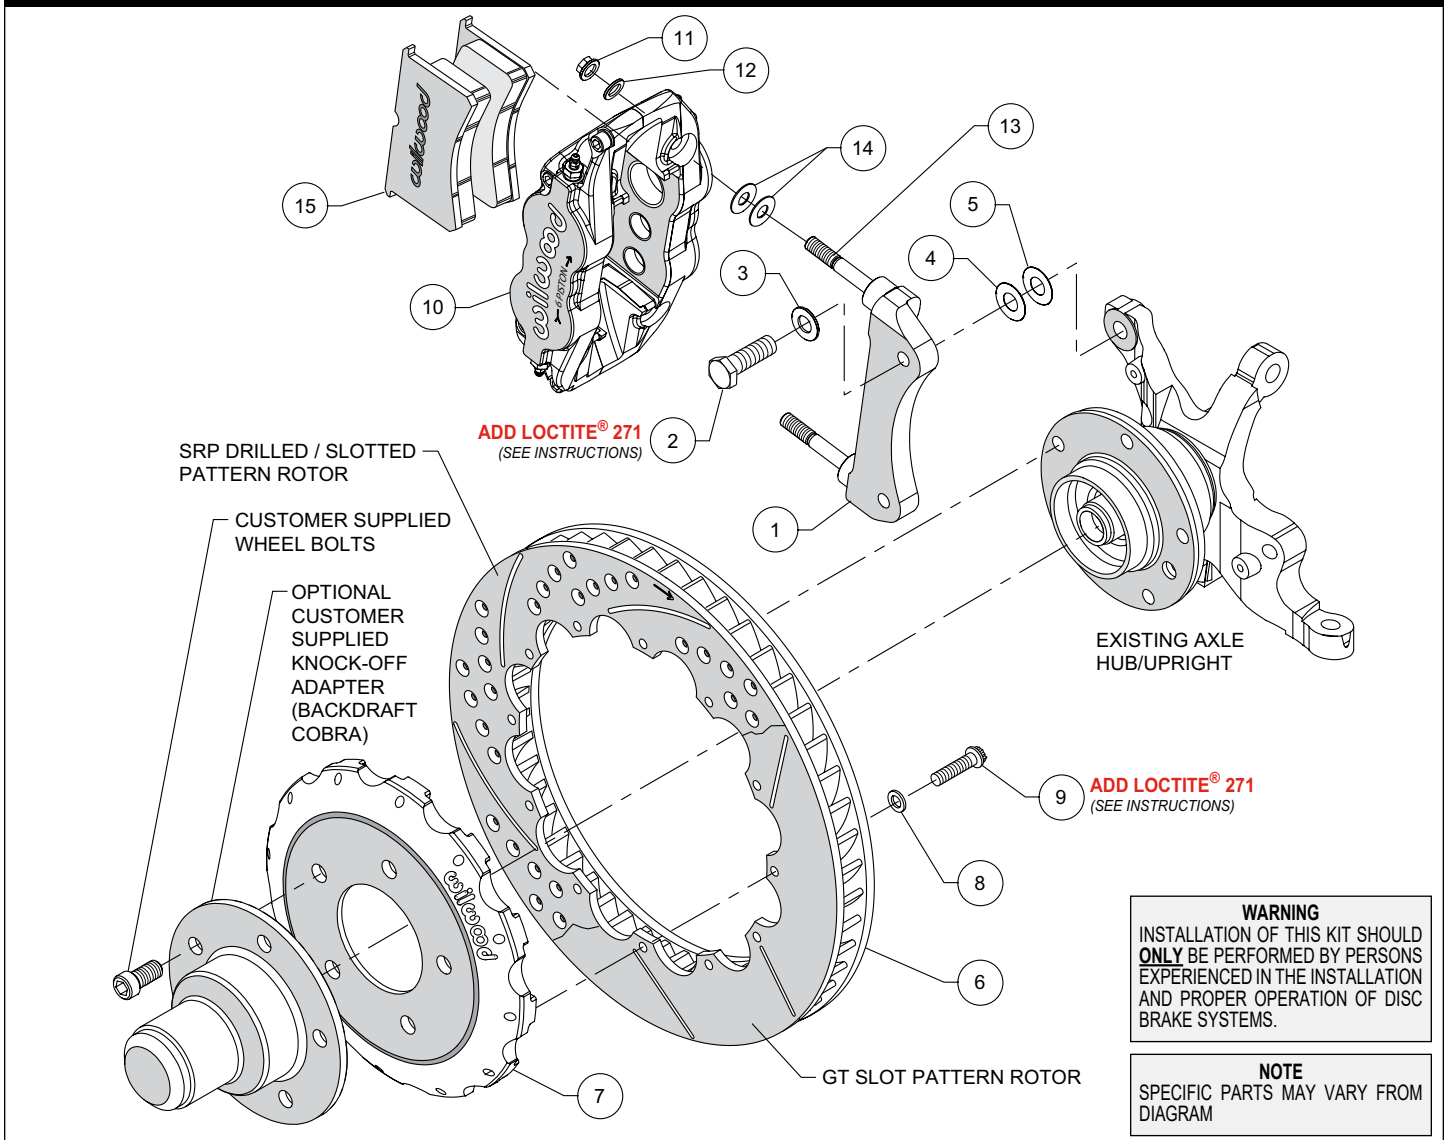

Figure 1. Typical Installation Configuration
Assembly Instructions (numbers in parenthesis refer to the parts list and Figure 1 on the preceding pages):
- The caliper mount bracket assembly (1) should initially be installed with clean, dry threads on the mounting bolts. Orient the bracket as shown in Figure 1 and install using mount bolts (2) and washers (3). Initially place one each .033" thick shim (4), and .015" thick shim (5) on each bolt between the bracket and upright, Figure 1. Temporarily tighten the mounting bolts. **NOTE: The bracket must fit squarely against the mount bosses on the backside of the upright.** Inspect for interference from casting irregularities, machining ridges, burrs, etc. Later, after the caliper alignment has been checked, the mount bolts will be secured using *Loctite*®.
- Orient the rotor (6) and the hat (7) as shown in Figure 1. Attach rotor to hat using bolts (9) and washers (8). Apply red *Loctite*® 271 to the bolt threads and torque to 155 **in-lb** using a criss-cross pattern. For an added measure of security, the bolts may be safety wired using standard 0.032 inch diameter stainless steel safety wire as shown in Figure 5. Please refer to Wilwood's data sheet DS-386 (available at www.wilwood.com/Pdf/DataSheets/ds386.pdf) for complete safety wire installation instructions.
- Slide the hat/rotor assembly (6/7) onto the axle hub. **NOTE: The hat must fit flush against the axle hub or excessive rotor run out may result.** Install the optional customer furnished knock-off over the hat/rotor assembly as shown in Figure 1. Install three customer supplied wheel bolts (finger tight) to keep the hat/rotor and knock-off assembly in place while continuing with the installation.
- **NOTE: This kit contains distinct right and left hand calipers that must be mounted in a specific direction, as described below.** Initially place two .035" thick shims (14) on each stud between the caliper and the bracket, as shown in Figure 1. Mount the caliper (10) onto the bracket (1) using lock nuts (11) and washers (12), Figure 1. Temporarily tighten the lock nuts. Ensure that the caliper is mounted so the largest pistons are at the rotor exit end of the caliper, in relation to the direction of the rotor. View the rotor (6) through the top opening of the caliper. The rotor should be centered in the caliper. If not, adjust by adding or subtracting shims (4 and/or 5) between the bracket and the upright. Always use the same amount of shims on each of the two mounting bolts. Once the caliper alignment is correct, remove the bracket mounting bolts one at a time, apply red *Loctite*® 271 to the threads, and torque to 65 ft-lb.
- Remove the caliper center bridge pad retainer bolt, nut, and tube from the caliper. Insert the brake pads (15) into the caliper, with the friction material facing the rotor, Figure 1. Check that the top of the brake pad is flush with the outside diameter of the rotor. If not, adjust by adding or subtracting shims (14) between the caliper and the bracket. After the caliper pad height is set, torque the caliper lock nuts (11) to 30 ft-lb. Secure the brake pads in place with the center bridge pad retainer tube, bolt, and lock nut. The locknut should be snug without play in the bolt or tube. Be cautious not to over tighten.